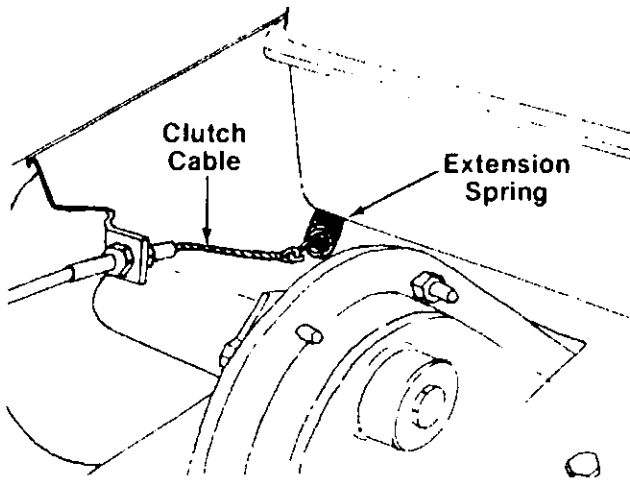

FIGURE 14.
16. Hook the end of the clutch cable (already attached to the tiller) over the extension spring as shown in figure 14.